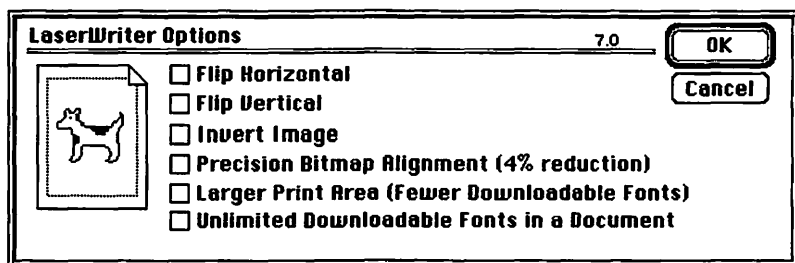

Figure 13 *LaserWriter Options dialog box.*
7. Click the **Options** button in the Page Setup dialog box. The LaserWriter Options dialog box, shown in Figure 13, will be displayed.